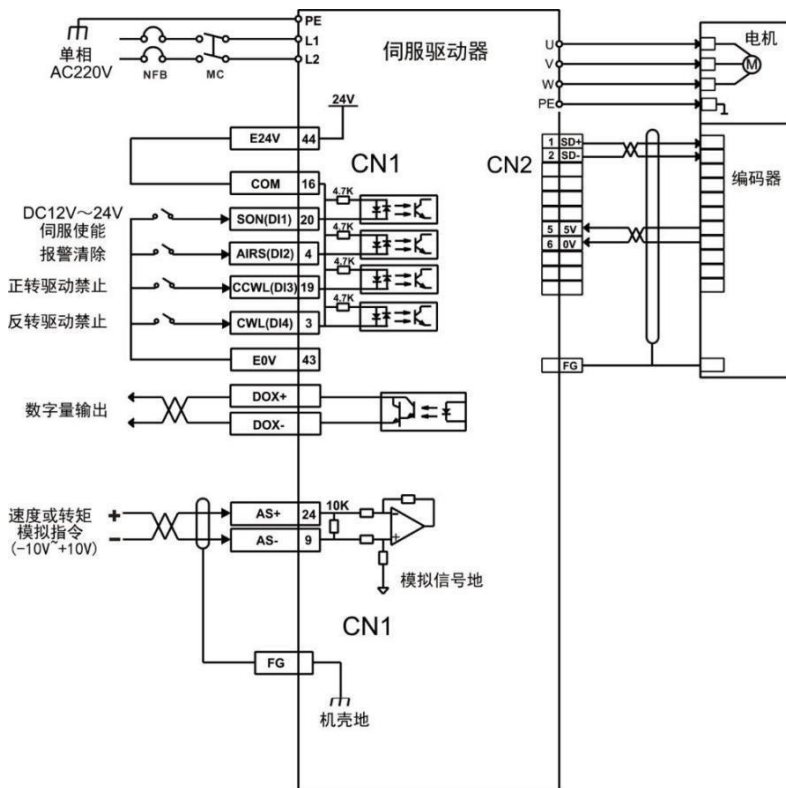

Figure 5.4 Speed Mode Wiring Diagram
- 3) Refer to Figure 5.4 Wiring Instructions to connect the required DI/DO signals in the CN1 terminal, such as servo enable, alarm clear, positioning completion signal, etc.